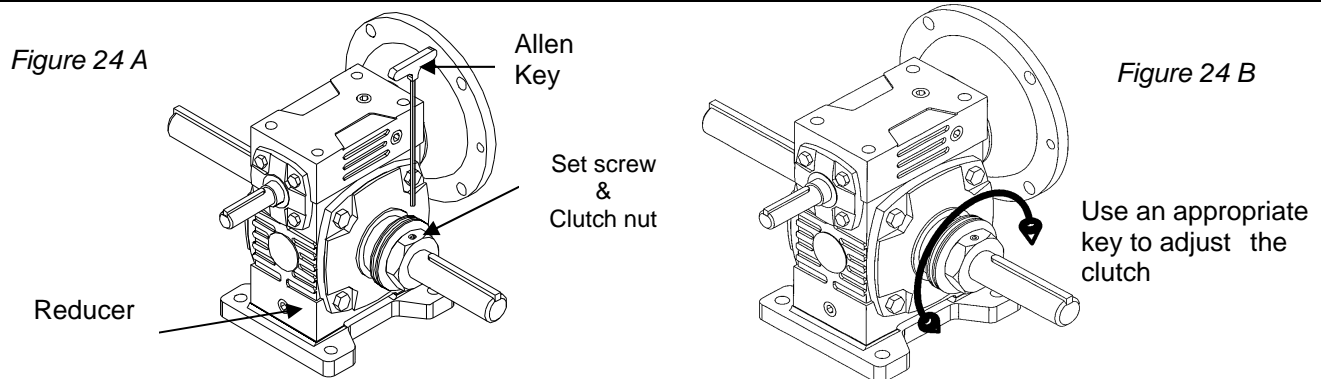

Figure 14 Reducer adjustment
1. Loosen clutch set screws (Figure 14 A).